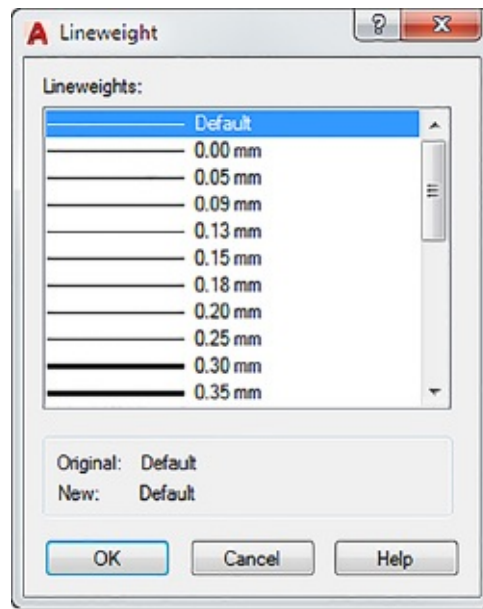

FIGURE 15.20 The Lineweight dialog box
3. Click the Lineweight column (not the column header) to open the Lineweight dialog box (see Figure 15.20).